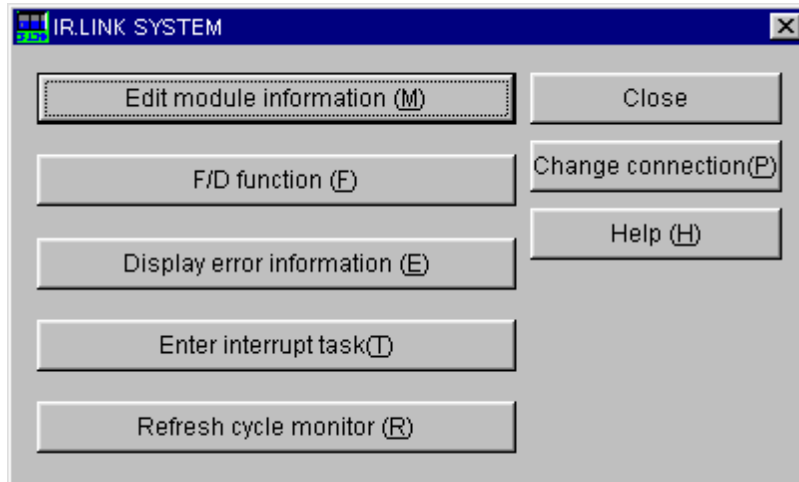

Figure 2-1 [IR.LINK SYSTEM] Window
IR.LINK system can be terminated by clicking the or button on the [IR.LINK SYSTEM] window shown in Figure 2-1.
- (1) Click on the Edit module information button in the [IR.LINK SYSTEM] window (Figure 2-1).
- (2) The [Edit information] window is displayed.